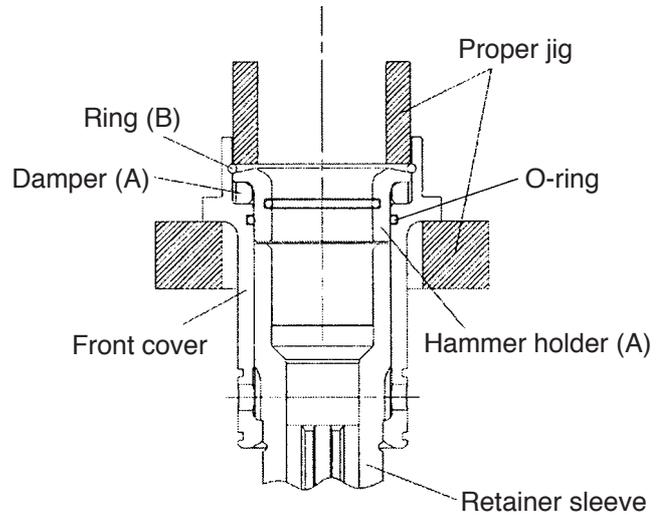

Fig. 18
- Mounting hammer holder (A)
Set the Retainer Sleeve [16], O-ring (S-34) [14], Damper (A) [17] and Hammer Holder (A) [18] in the Front Cover [12]. Supporting the flange portion of the Front Cover [12] with a proper jig, lightly push in Ring (B) [20] using a proper jig of 44 mm outside dia. and a hand press. At this time, check that Ring (B) [20] is fitted in the groove of the Front Cover [12] securely (Fig. 18).